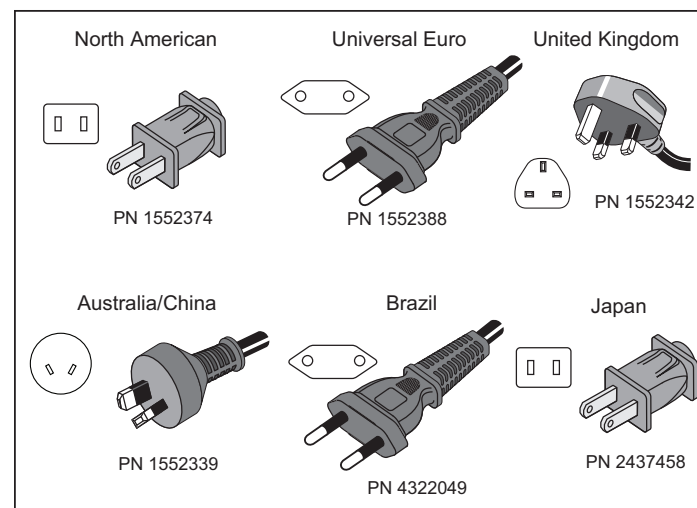

Figure 1. Country-Specific Mains Power Cable
- Mains Power Cable (see Figure 1)